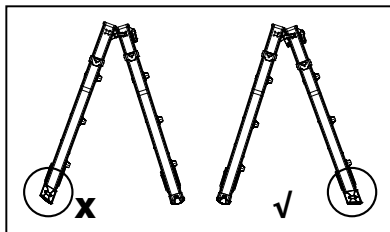
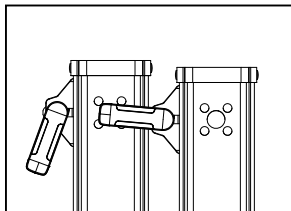

Figure 6
Figure 7
3) Using both remaining outer ladder sections, turn rear section 180 degrees. Feet of front section must be flat to the surface (See Figure 6). Insert the “J” locks of one section into the adjacent holes of the other section as shown in Figure 7.